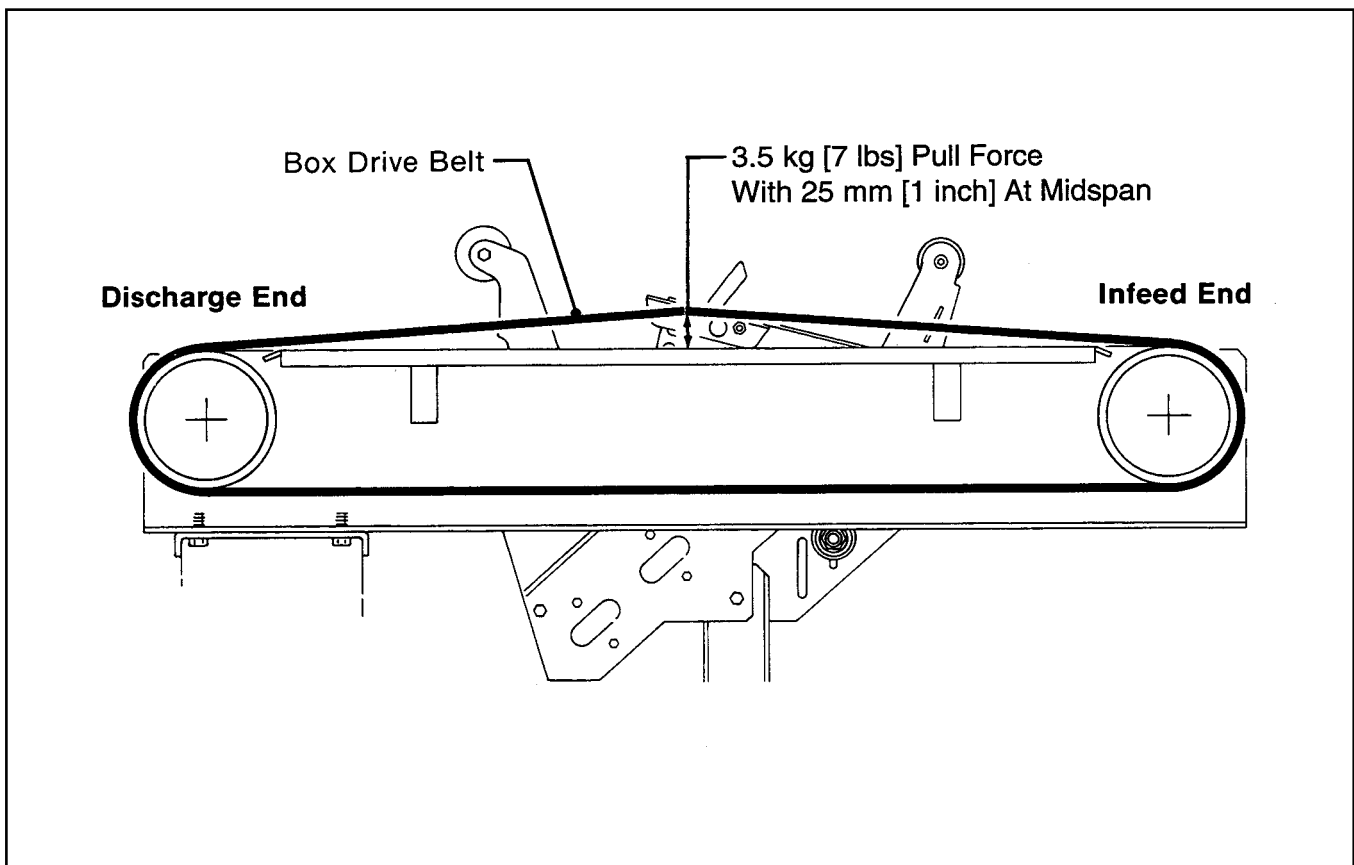

Figure 5-1 – Box Drive Belt Tension Adjustment
Belt tension is obtained by tightening the adjustment screw so that a moderate pulling force of 3.5 kg [7 lbs.] applied at the midspan, as shown in Figure 5-1, will deflect the belt 25 mm [1 inch]. This will assure positive contact between the belt and the drive pulley on the discharge end of the drive assembly.
**Note** – Figure 5-1 illustrates the lower drive belts; however, upper belts are adjusted in the same manner.